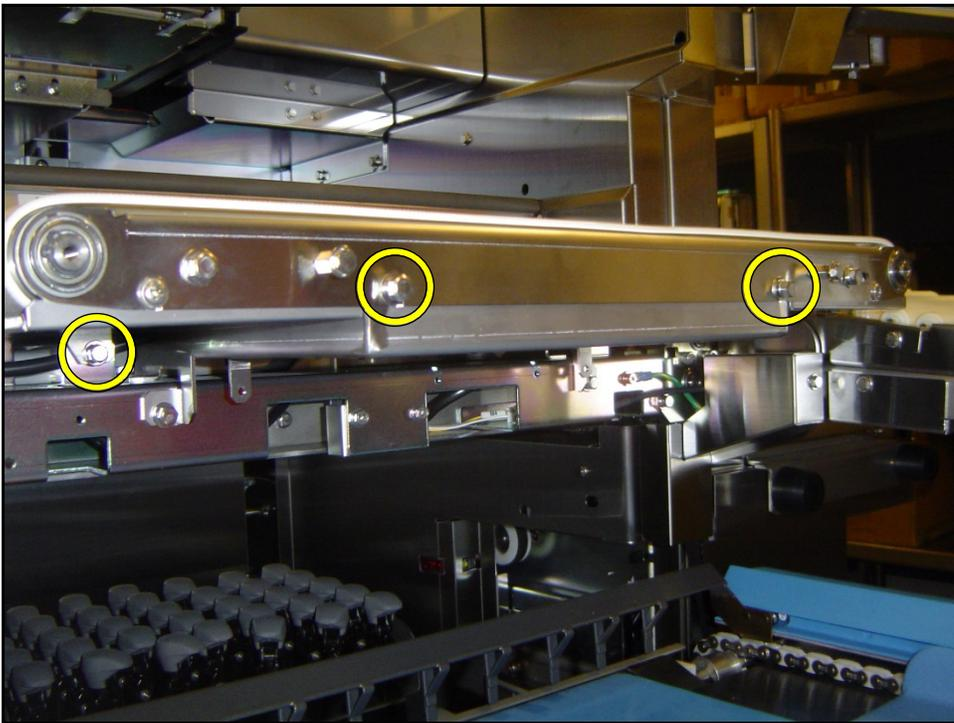

Figure 5. Exit Conveyor Mounting Bolts
8. Loosen four 8mm bolts and slide the white exit conveyor assembly up and off the wrapper. See Figure 5.